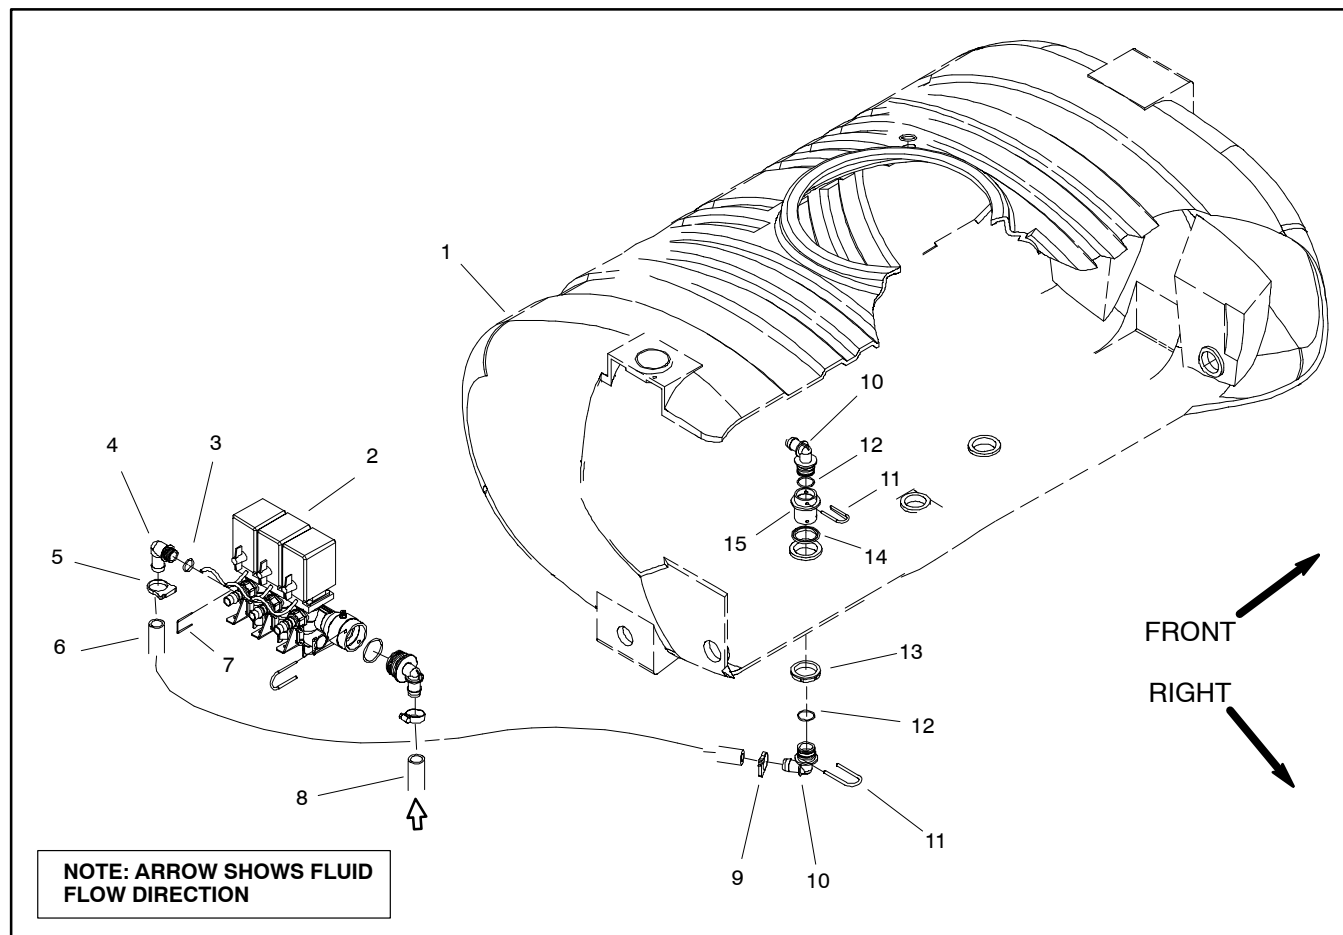

Figure 30
Disassembly (Fig. 30)
3. Disassemble boom bypass using Figure 30 as a guide. Discard all removed o-rings and gaskets.
Assembly (Fig. 30)
1. Assemble boom bypass using Figure 30 as a guide. Replace all removed o-rings and gaskets.